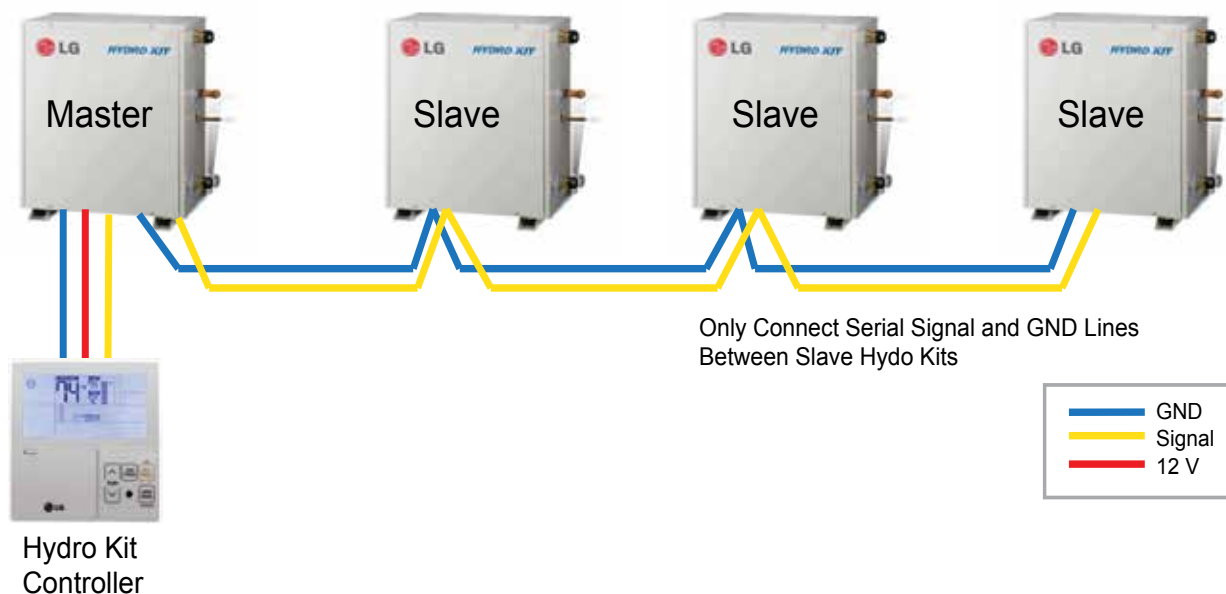

Figure 44: Wiring Schematic - Hydro Kit Controller to Multiple Hydro Kits
6. Plug the Y-cable into the pigtail at each Hydro Kit; except for the last Slave Hydro Kit in the group, at which no Y-cable cable will be needed (see Figure 44).